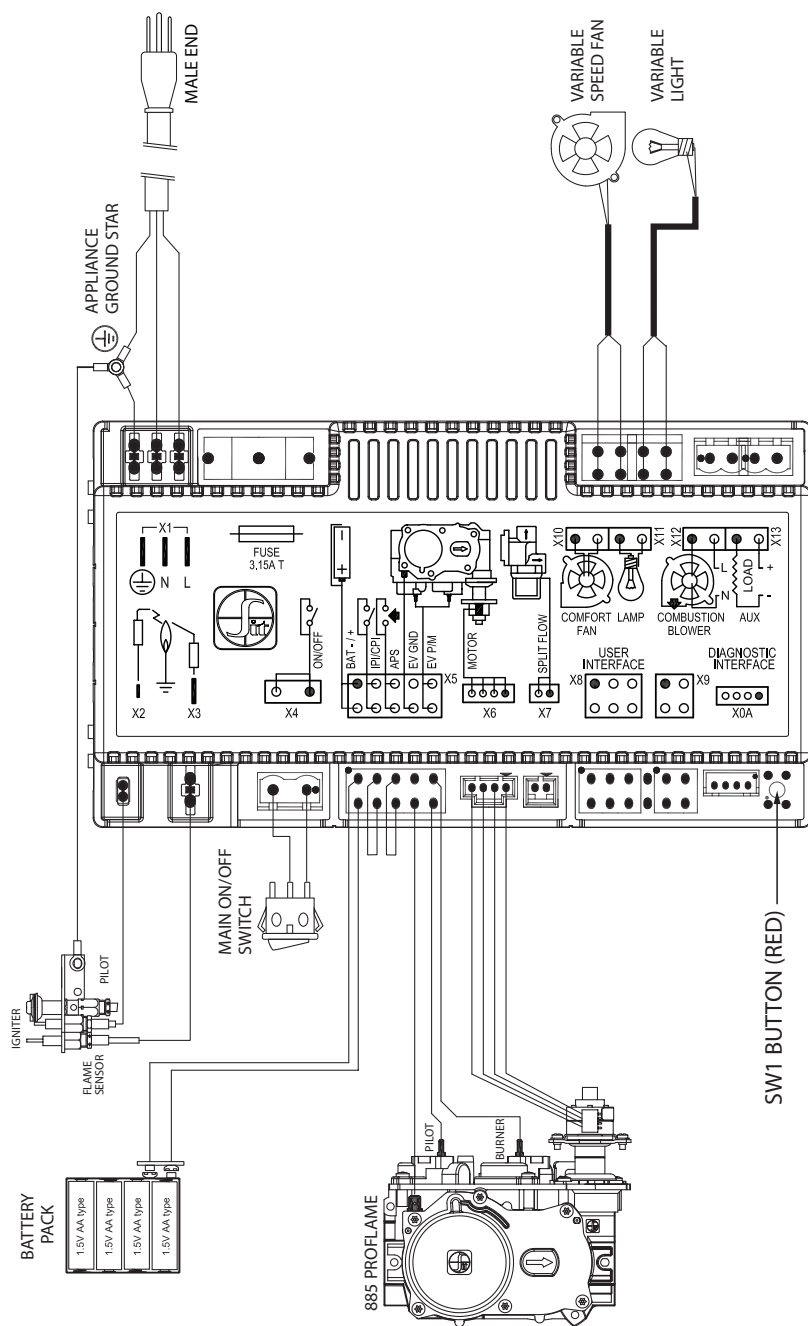

Figure 8.1 Wiring Schematics
1. Locate (4) mounting studs underneath the rear of the gas stove.
3. Align the (4) mounting slots in the fan bracket to the mounting studs under the firebox.
4. Lift up the fan and secure the fan assembly to the firebox with (4) flange nuts.
5. Connect the fan wires to the fan lead wires on the IFC module. See Figure 8.1 Wiring Schematics on page 25.